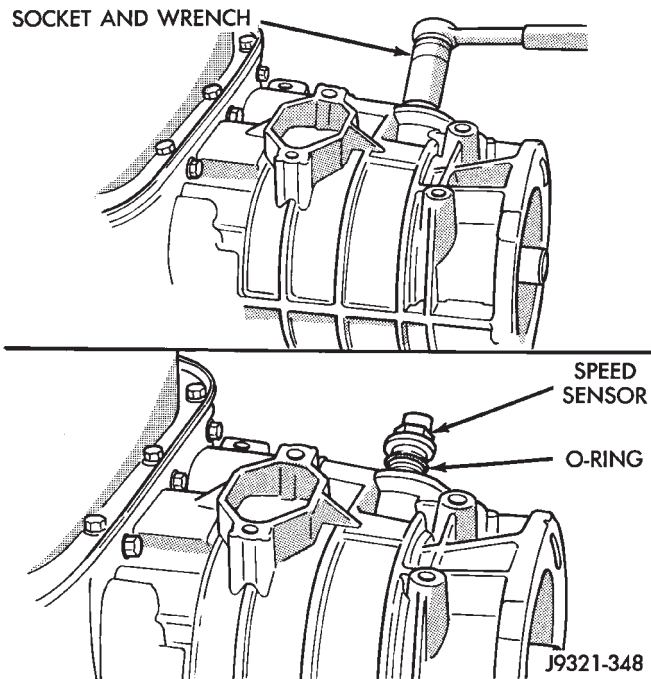

Fig. 1 Transmission Speed Sensor Removal/Installation
(1) Disconnect battery negative cable.
(2) Raise vehicle on hoist.
(3) Remove exhaust Y-pipe, catalytic converter and tailpipe.
(4) Mark propeller shaft and U-joint for alignment reference (Fig. 1).
(5) Disconnect and remove propeller shaft.
(6) Disconnect vehicle speed sensor and transmission speed sensor wires.
(7) Support transmission with adjustable jack stand and wood block.
(8) Remove nuts and bolts attaching transmission mount to center crossmember.
(9) Remove nuts and bolts attaching crossmember to frame rails.
(10) Rotate crossmember diagonally to clear frame rails and remove crossmember.
- (11) Support overdrive unit with transmission jack.
- (1) Remove torque converter if not previously removed.
- (2) Clean transmission exterior with steam gun or with solvent. Wear eye protection during cleaning operations.
- (3) Remove shift and throttle levers from valve body manual lever shaft.
- (4) Remove transmission speed sensor and O-ring seal from overdrive unit (Fig. 1).